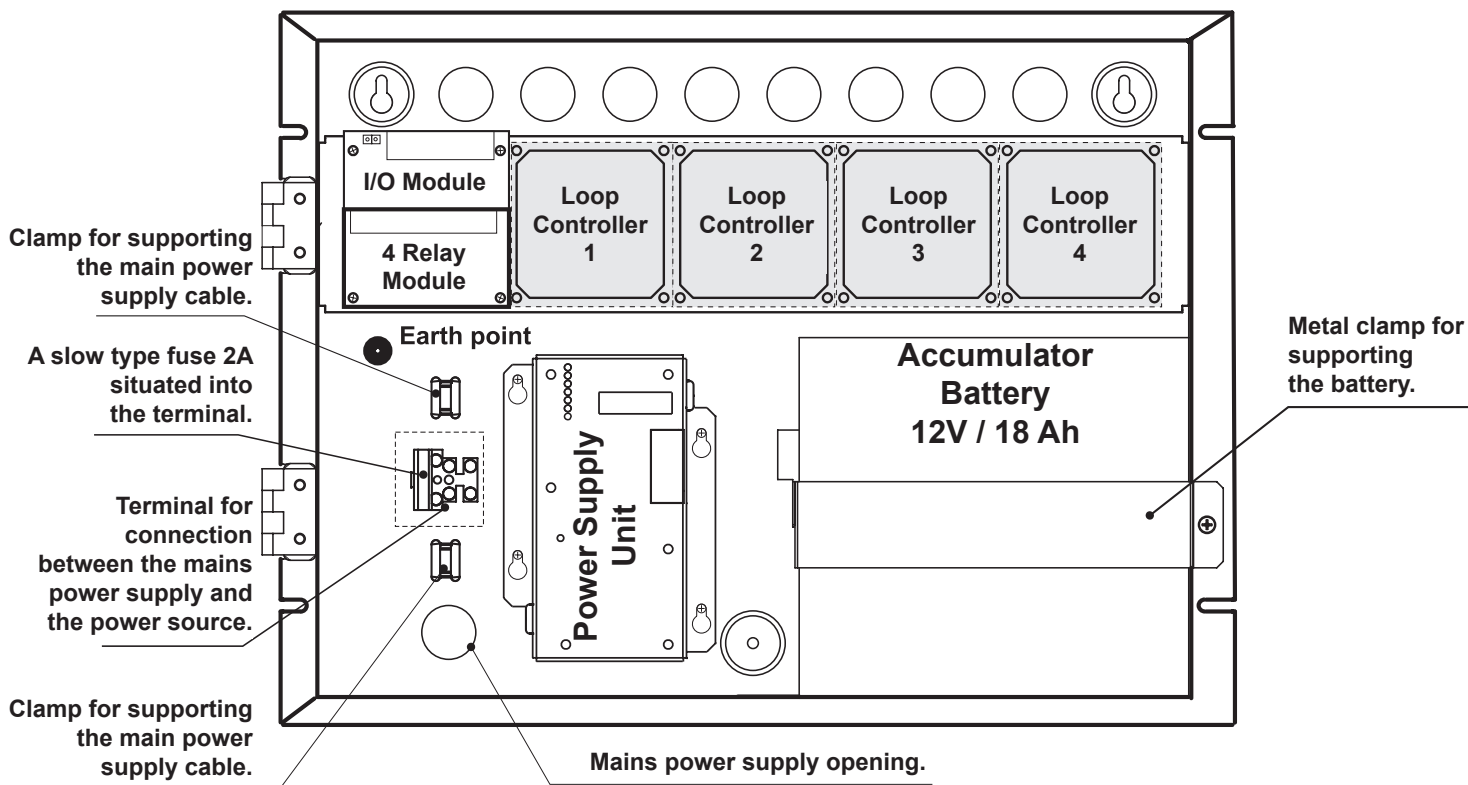

Figure 10. Configuration of the basic modules in the system.
- Position the battery in an upright position and fix the metal clamp - Figure 10.
- Position the accumulator battery in an upright position and fix the metal clamp - Figure 10.